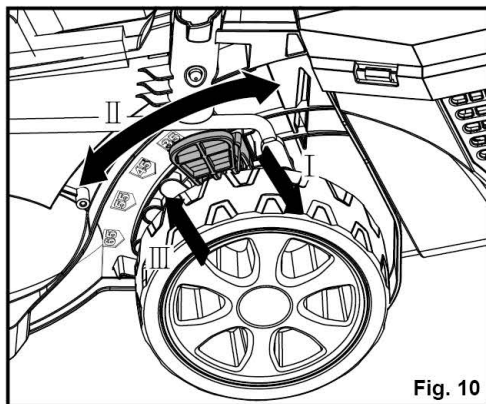

Fig. 10
1. To raise the cutting height, grasp the cutting height adjustment lever and move it toward the front of the mower (Fig. 10).
2. To lower the cutting height, grasp the cutting height adjustment lever and move it toward the back of the mower (Fig. 10).